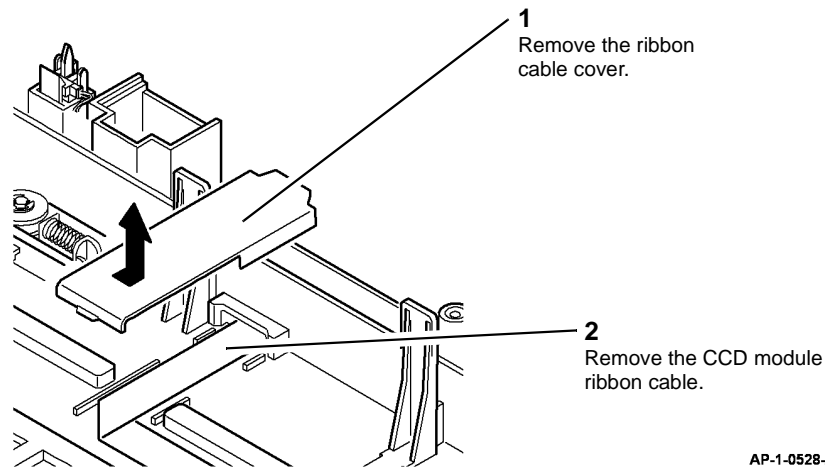

Figure 4 Ribbon cable removal
- Remove the CCD module ribbon cable, Figure 4.